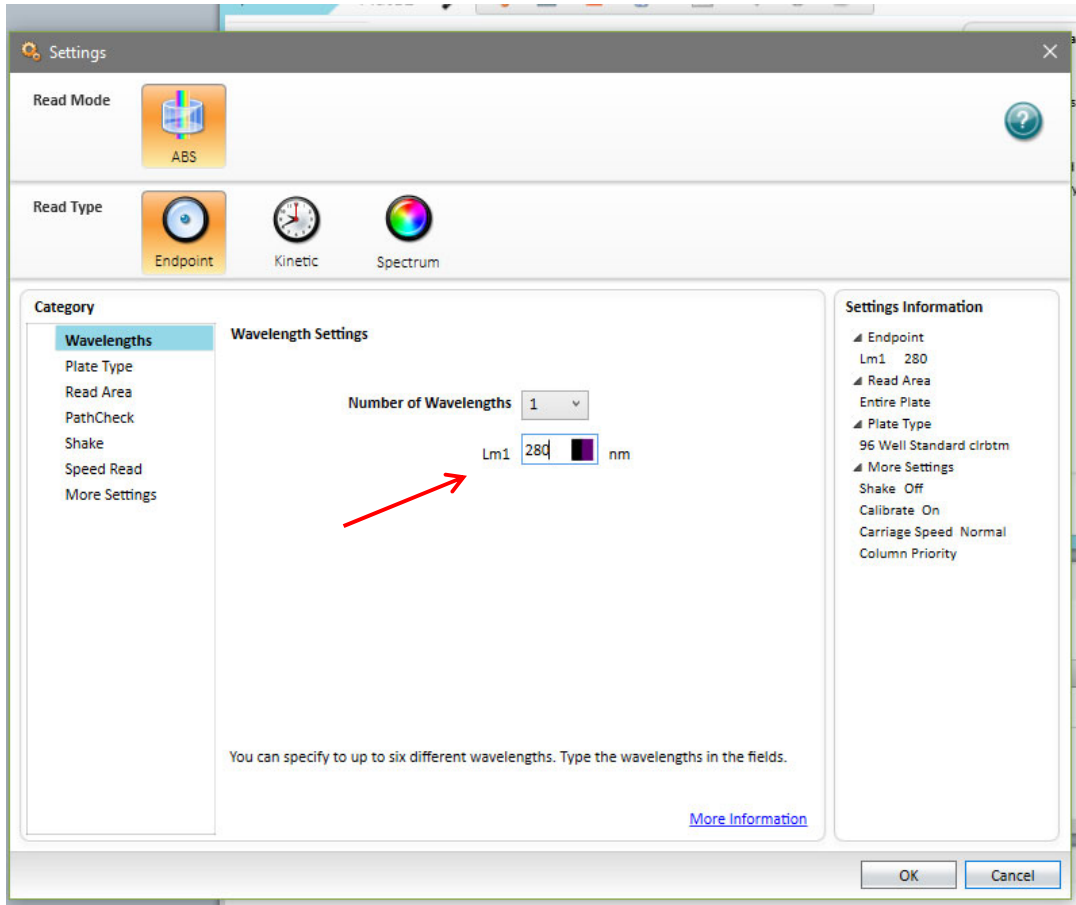

Figure 2: Acquisition setting window
- select the number of wavelengths (max. 2 in parallel) that you require for your application (figure 2) by entering the numbers directly (Monochromator, adjustable in 1 nm steps)